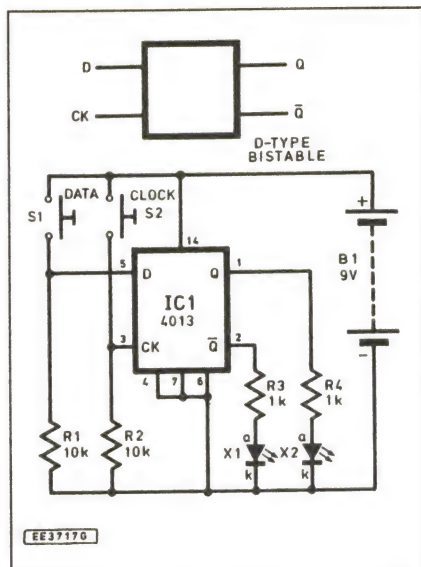

Fig. 10. D-type bistable symbol and a practical circuit.
clocked bistable with several uses in electronics. Its symbol, and a practical circuit to illustrate how it works, are shown in Fig. 10. The D-type bistable has two inputs – one called Data (D) and the other, Clock (Ck).
Fig. 10. Note that the 4013 chip contains two separate D-type bistables but here we are using only one of them. In addition to previously-used components you will need: